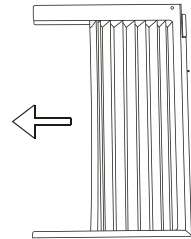

Figure 1
- a. Hold the side Panel in one hand and gently pull back the center to free the open end. See Figure 1.